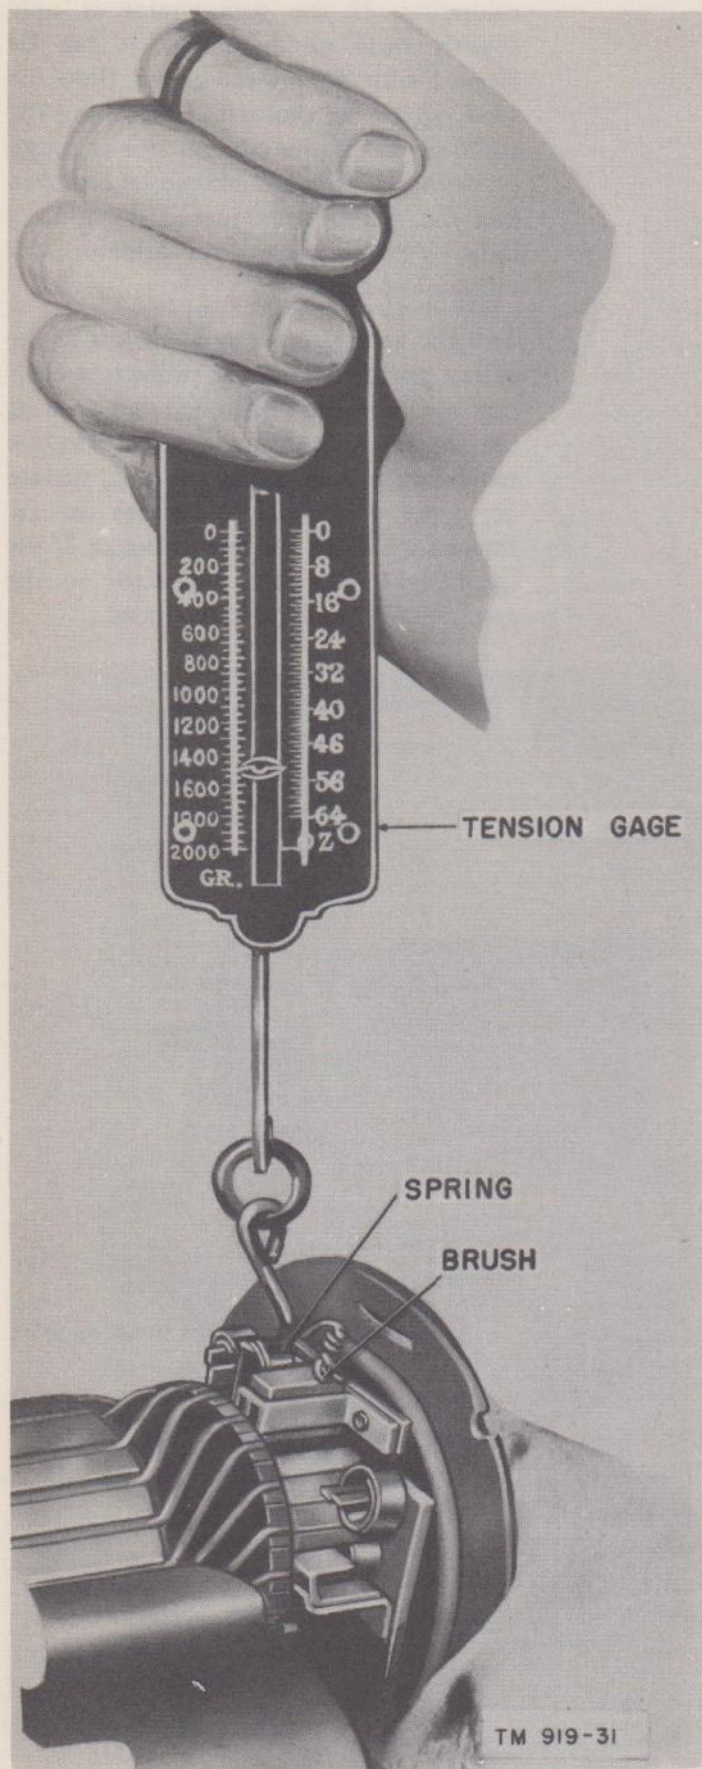

Figure 31. Measuring brush spring tension (starting motor).
2. To replace the brushes (8) which have leads connected to the brush holder, the terminal must be unclined and unsoldered. The new brush leads must be tightly clinched in the terminal, and then soldered to make a strong, low-resistance connection. Brushes (6) which are soldered to the field coil must be unsoldered and the loop in the field coil lead must be opened. Insert the new brush pigtail to its full depth in the loop and then clinch before resoldering. A good soldering job must be done to insure no loss of efficiency because of poor contact.
3. To check the tension of the reaction-type brush springs (7), hook a scale under the brush spring near the brush and pull on a line parallel with the side of the brush, as shown in figure 31. Take the reading just as the spring leaves the brush. The brush spring tension should be between 2.6 and 3.2 pounds (42 to 53 ounces). If the brush spring tension is too low, a loss of efficiency will be caused by poor brush contact. If the tension is too great, the commutator and brushes will wear excessively and have short life. It is important, therefore, that the brush spring tension be kept within the specified limits. To change the spring tension, use long-nosed pliers and twist the spring at the holder.